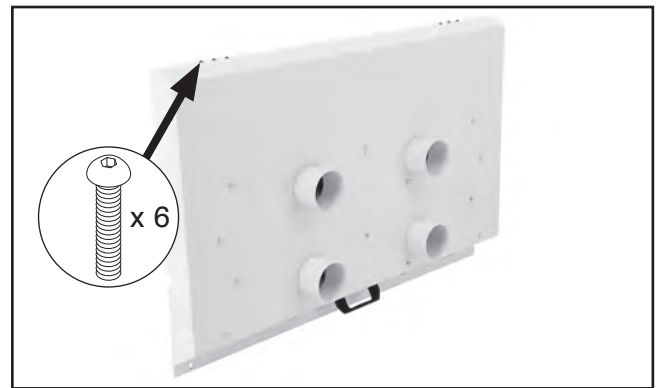

Figure 12. Location of hinge fasteners.
1. Remove (6) pre-installed button head cap screws from top cover (see **Figure 12**).